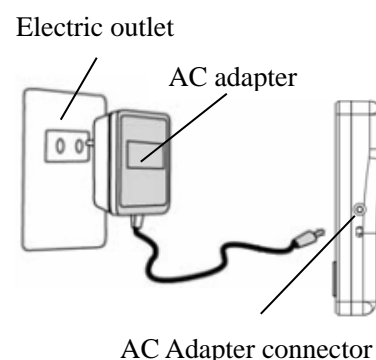

Fig 5
- 2) Plug the socket into electric outlet.(Fig 5)